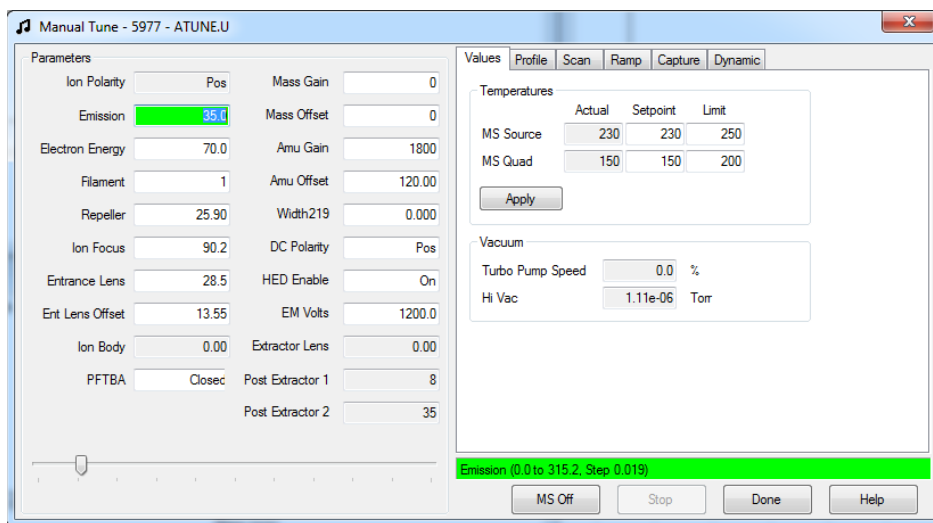

Figure 39 Manual Tune Values tab HiVac reading
- 5 Select the **Values** tab to view the HiVac reading. (See **Figure 39.**)